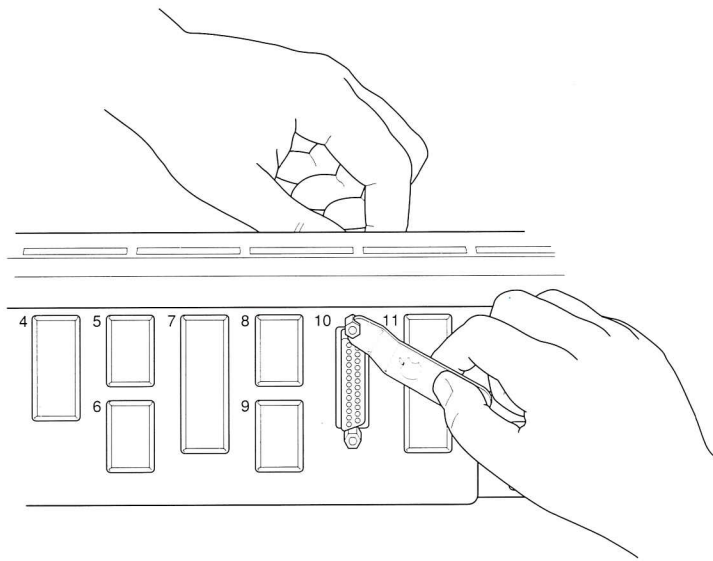

Figure 4-11 Attaching the connector to the back panel
3. Attach the 25-pin connector to the back panel using the screws and wrench that came with the Super Serial Card. (See Figure 4-11.)